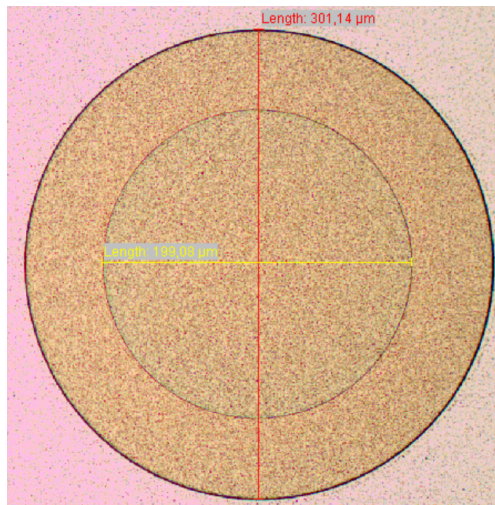

Figure 1: Microscope image of the finished structure, showing good alignment.
- Positive photo lithography with mask 2 and **NO PRIMER!!** The primer will make development impossible, as it sticks very well to Al. It is important to get the alignment correct as shown in Fig.1. Exposure @ 240W for 8 secs. Developer must be 1:6 or lower. Risk of developing non-exposed regions.